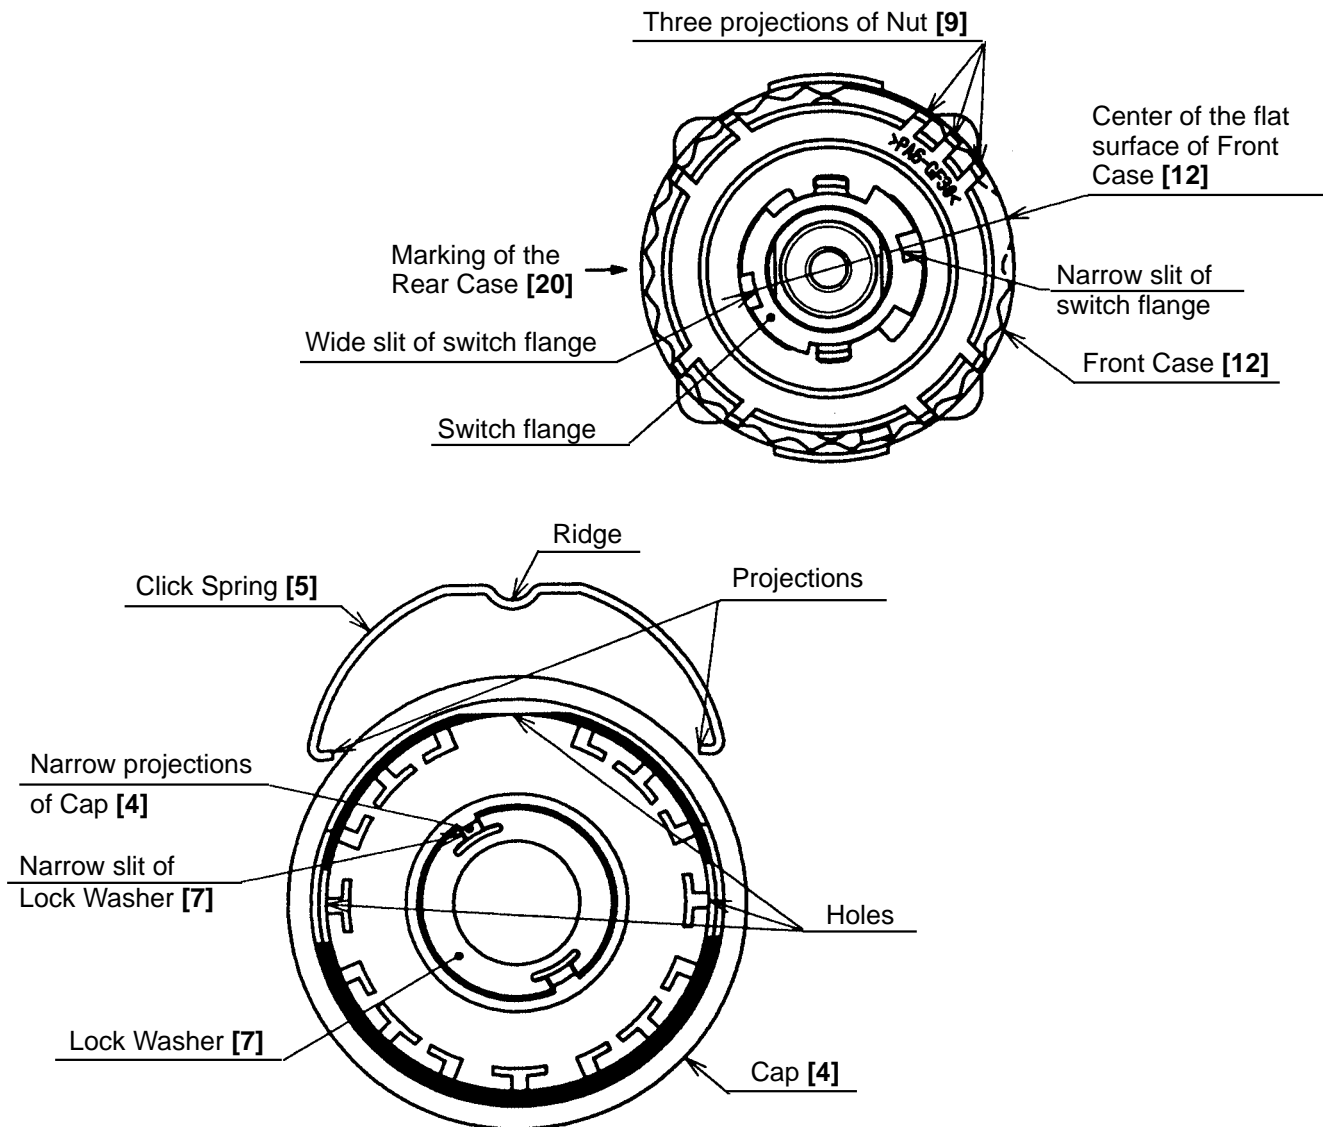

Fig. 11
- (c) Install the Click Spring [5] and the Cap [4] to the assembly reassembled in step (b). (See Fig. 11.)
- (ii) When the Nut [9] is screwed in the Front Case [12] about 1-3/8 turns (495°), the three projections of the Nut [9] and the marking of the Rear Case [20] are positioned as shown in Fig. 11. Set the narrow slit of switch flange as shown in Fig. 11. Mount the Cap [4] aligning the ridge of the Click Spring [5] with the three projections of the Nut [9].